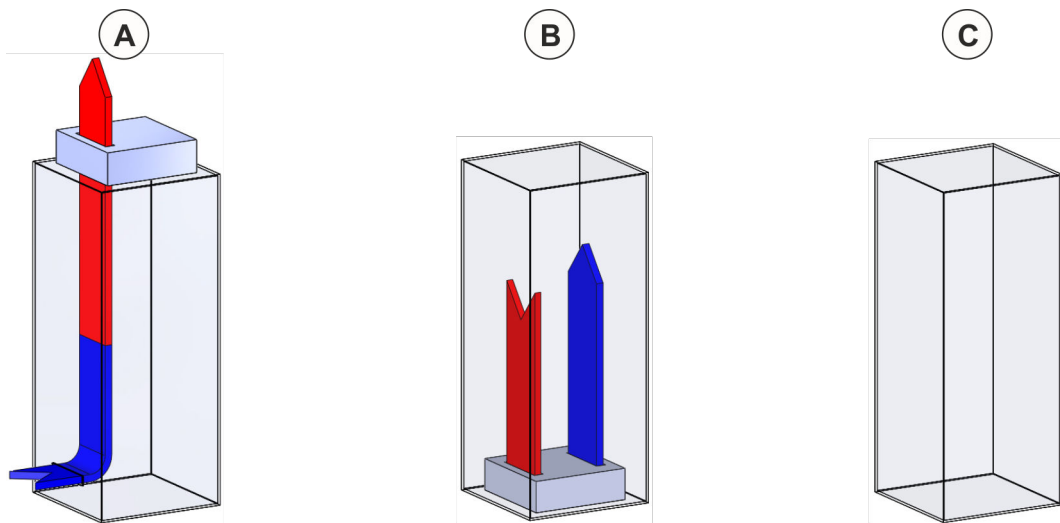

Fig. 17: Cooling air circuit switch cabinet
- Operation only in closed cabinets. If cooling units are installed, make sure that no air exchange with the ambient air takes place (Fig. 17).